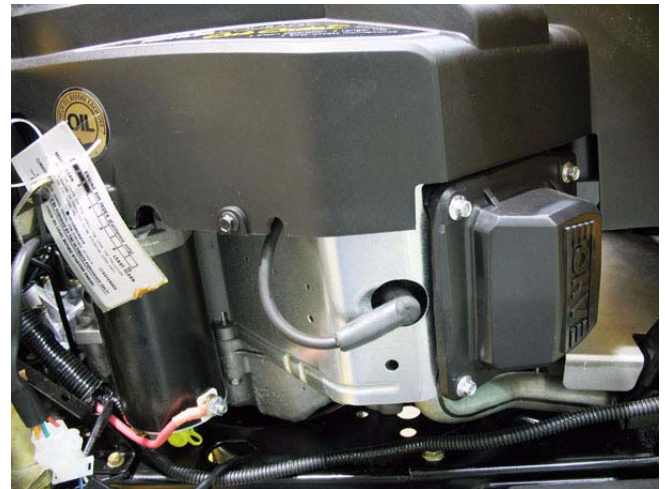

Figure 9.1
- 1a. Remove the spark plug wires on each side. See Figure 9.1.